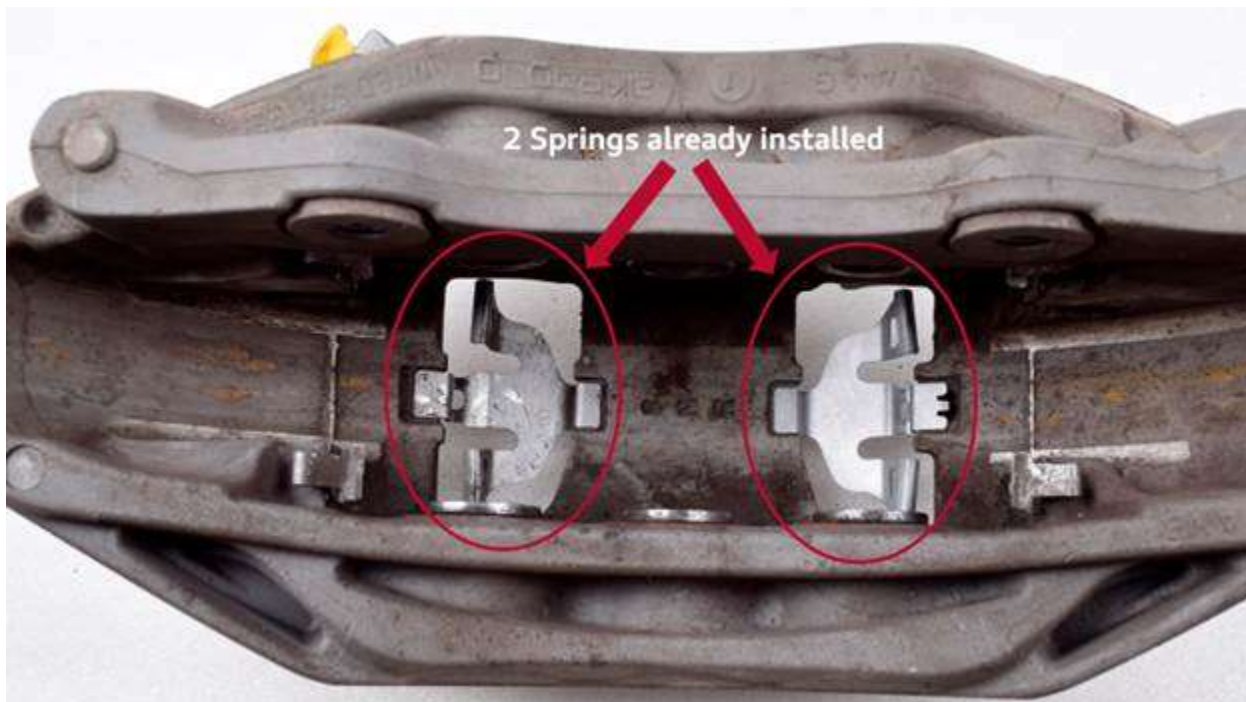

Figure 2. Spring configuration, after installation.
2. Install one new lower spring in each caliper. Final configuration must have two springs per caliper (Figure 2). See available spring designs (Figure 3).